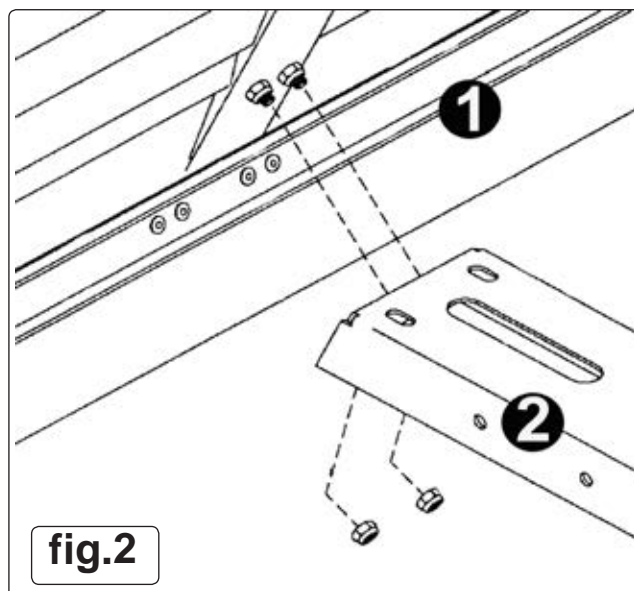

fig.2
- 4.2. Referring to fig.2, remove the two lock nuts at the front base of the hopper (1).